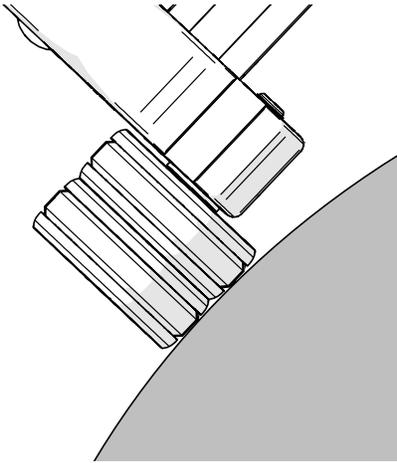

Fig. 98 - Wheels are flat on scan surface
- Hold the scanner using the wheel block with handles, pivot the frame bars (Fig. 97-1) so the wheels are perpendicular to the tangent of the scan surface (Fig. 98) while simultaneously lowering the scanner to position (Fig. 97-2).
- Ensure the wheels are seated flat on the scan surface (Fig. 98)